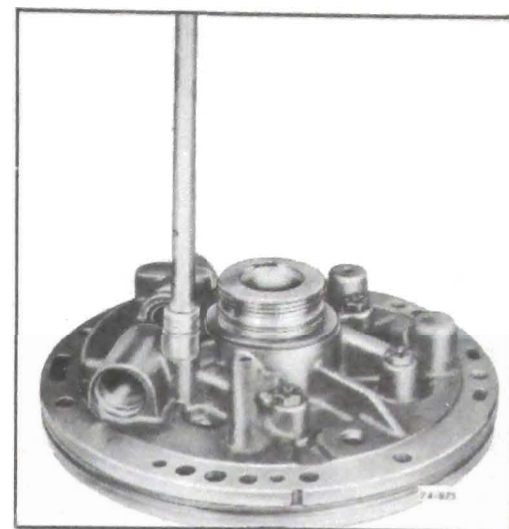

Figure 76-617
6. Remove the pump cover to body attaching bolts. See Figure 76-617.